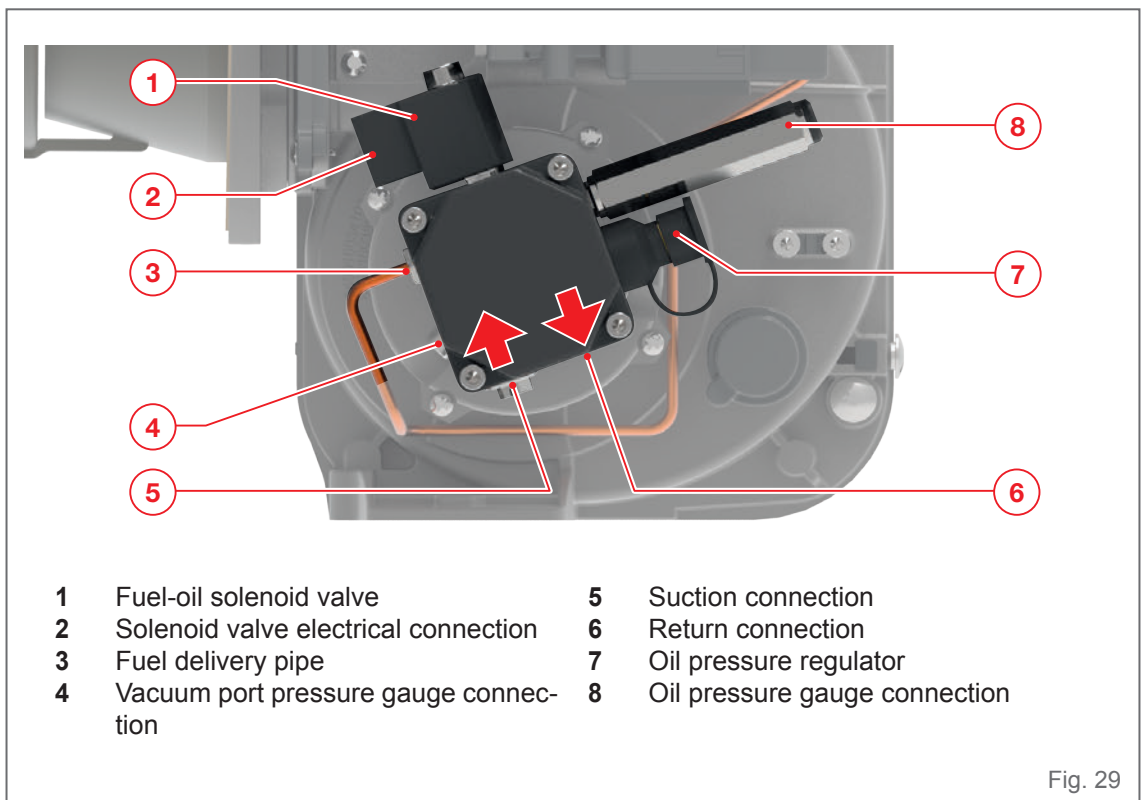

Fig. 29
The oil pressure, and therefore burner output, is adjusted using oil pressure regulator (7), see "Fig. 29", on the pump.